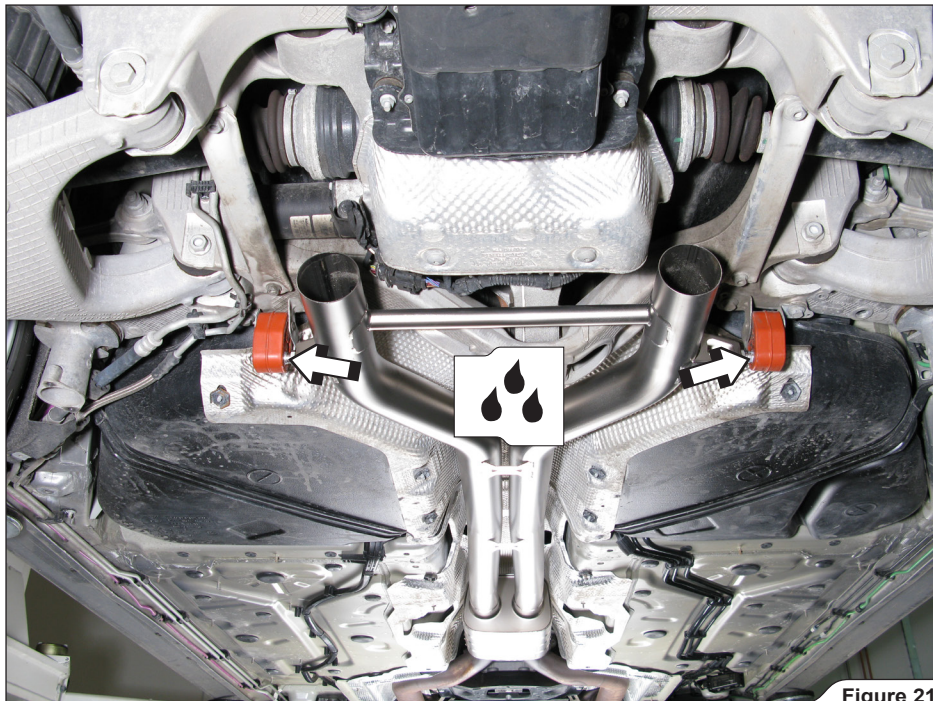

Figure 21
8. For all vehicle models: attach the link pipes onto the original rubber brackets (Figure 21).